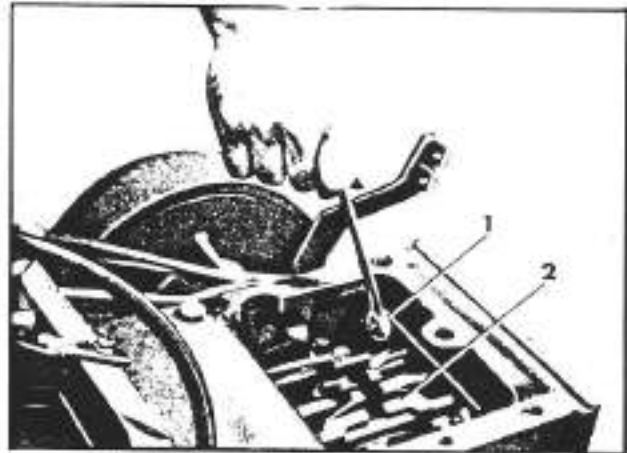

Fig. 3-22. Removal of the support of the speed selector control rods
- q. Loosen the two lock nuts (1; fig. 3-22) of the support of the control rod (2, fig. 3-22).